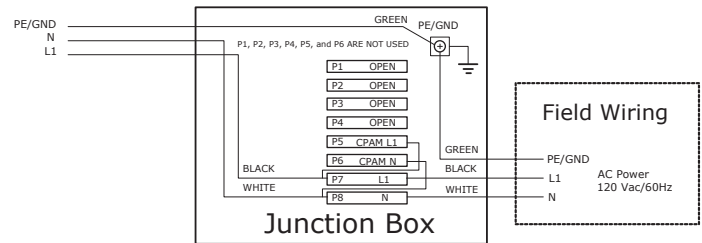

Figure 1. Junction Box Assembly
The 120 VAC black (hot) wire from the power supply must connect to the black lead wire or the “L1” terminal block location in the junction box and the 120 VAC white (neutral) wire must connect to the white lead wire or the “Neutral” terminal block location in the junction box for correct polarity. See **Figure 1** (page 6).
4. Connect the ground wire from the power supply to the grounding lug inside the junction box. See **Figure 1** and **Wiring Diagrams** (page 46).